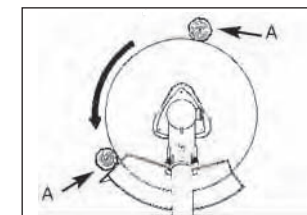

Fig. 14
Place the sapling against the stop (A) so the rotation of the blade continually draws it into the stop (A) (Fig. 14).